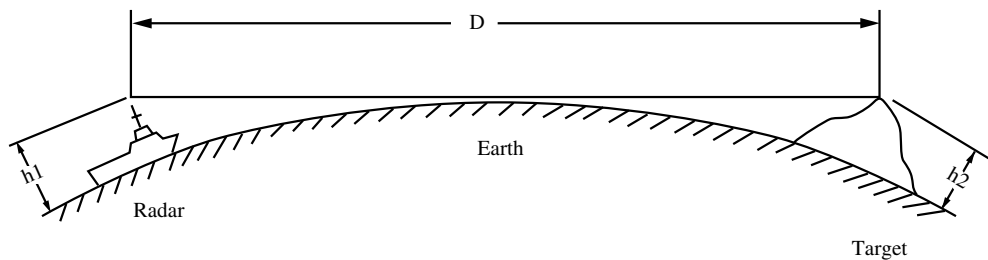

Fig. 6.1
Radar wave has the characteristic to propagate along the curved surface of the earth. This characteristic varies with the character of air layer through which the wave propagates. In the normal propagation, the radar line-of-sight range (D) can be expressed as follows though the distance is generally said about 10% longer than the distance to the optical line-of-sight range (see Fig. 6.1).